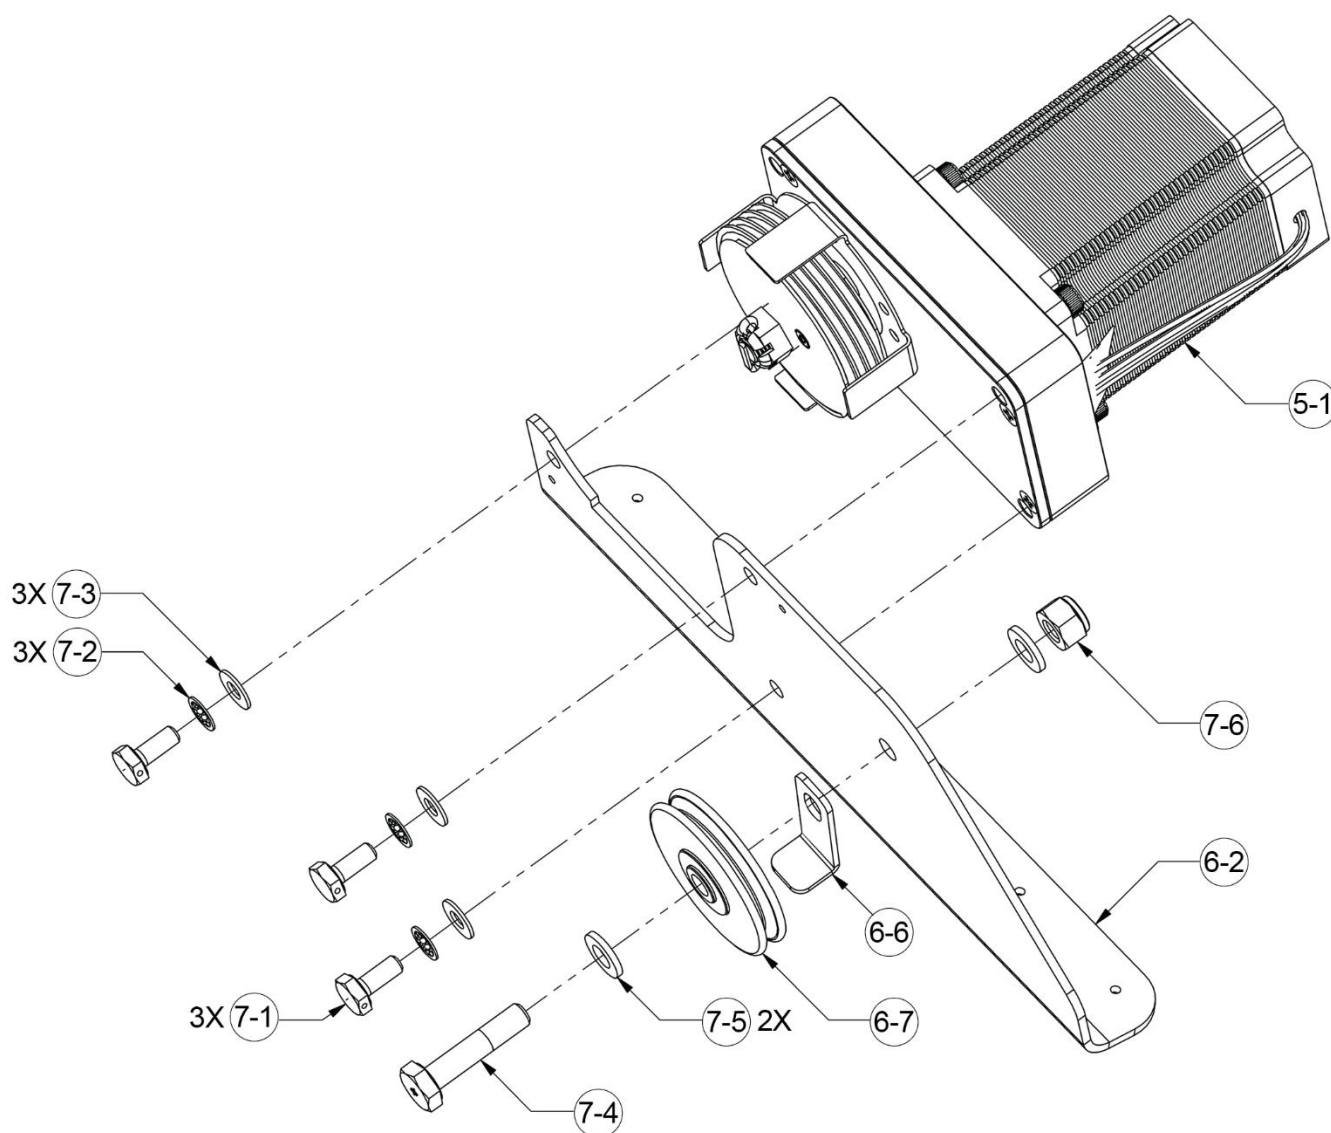

Figure 19: Attaching Pitch Servo and Idler Pulley to Vertical Bracket
6. Attach pitch servo and idler pulley to vertical bracket, as shown in Figure 19. Do not fully tighten hardware yet.
15. Permanently secure idler pulley and pulley guard to vertical bracket (see Figure 19).
23. Temporarily attach pitch servo to vertical bracket (see Figure 19).